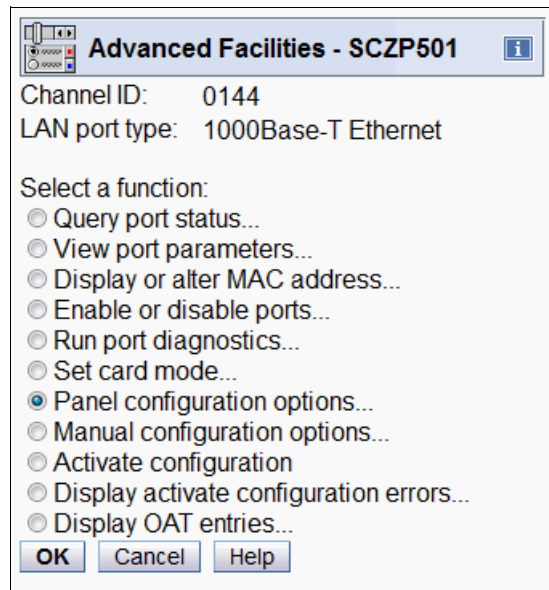

Figure 14-4 OSA/SF on HMC: Panel configuration options selection
4. The Advanced Facilities panel opens (Figure 14-4). OSA/SF on HMC is integrated in this panel. If you edit OAT and SNA timer entries, select **Panel configuration options** and click **OK**.